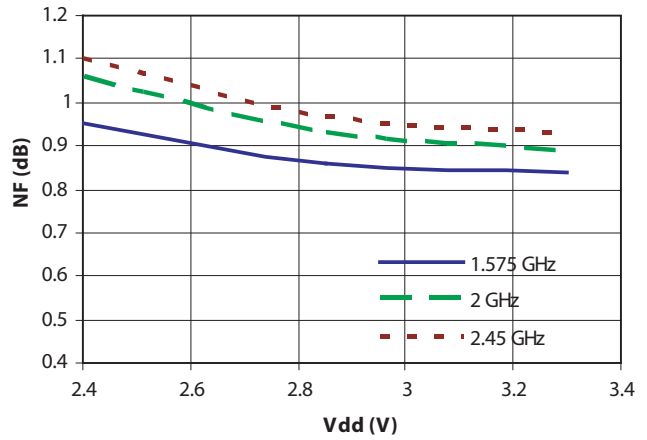

Figure 4. NF vs Vdd vs Freq
TA = 25 °C, DC bias for RF parameters is Vdd = Vsd = +2.85V , measured on demo board (see Fig. 4) unless otherwise specified.
Table 2. Typical performance at low operation voltages with R1 (see Fig 4) set to 0 Ohm
7. Measurements at 1.575GHz obtained using demo board described in Fig 4.
MGA-635T6 Typical Performance Curves, Vdd=Vsd=+2.85V, R1=22K0hm measured on demoboard (see Fig.4) at 1.575GHz (At 25°C unless specified otherwise)
**MGA-635T6 Typical Performance Curves, Vdd=Vsd=+2.85V, R1=22K0hm measured on demoboard (see Fig.4)